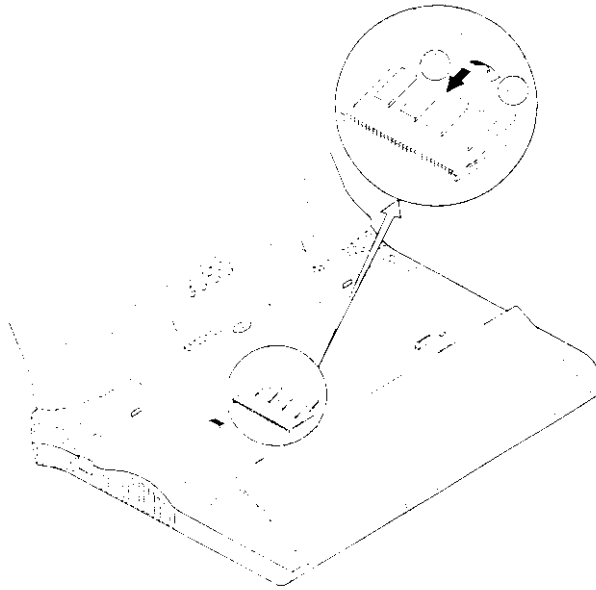

Figure 2-7
4. Position the memory module at a slight angle and fit its connectors into the socket firmly. Push the module down and ensure it locks into place (Figure 2-7).